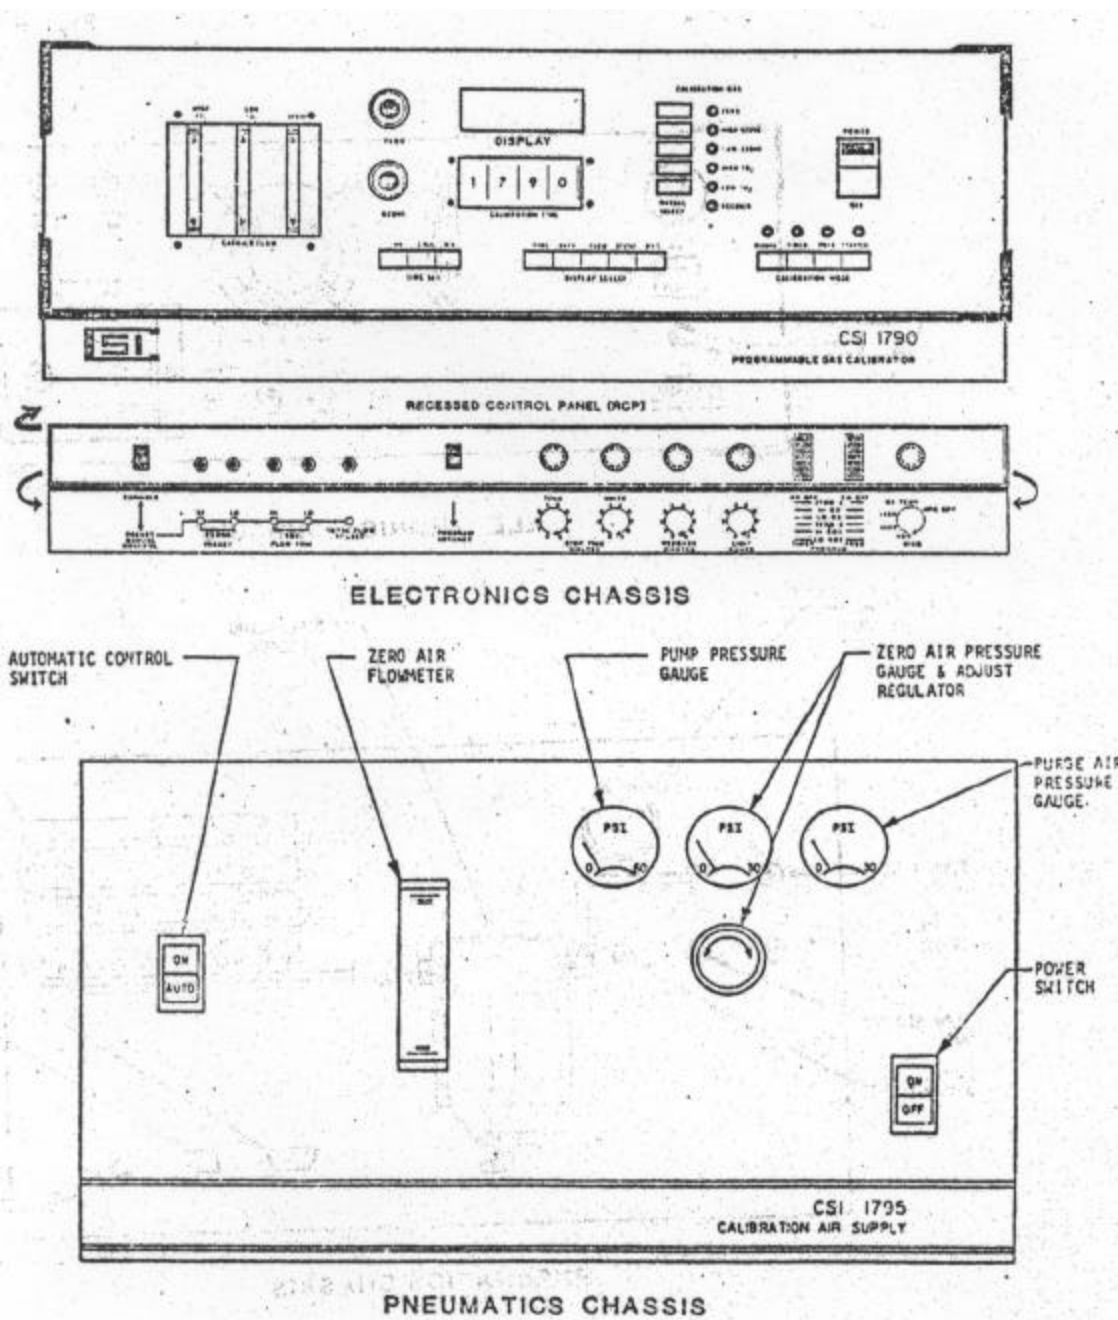
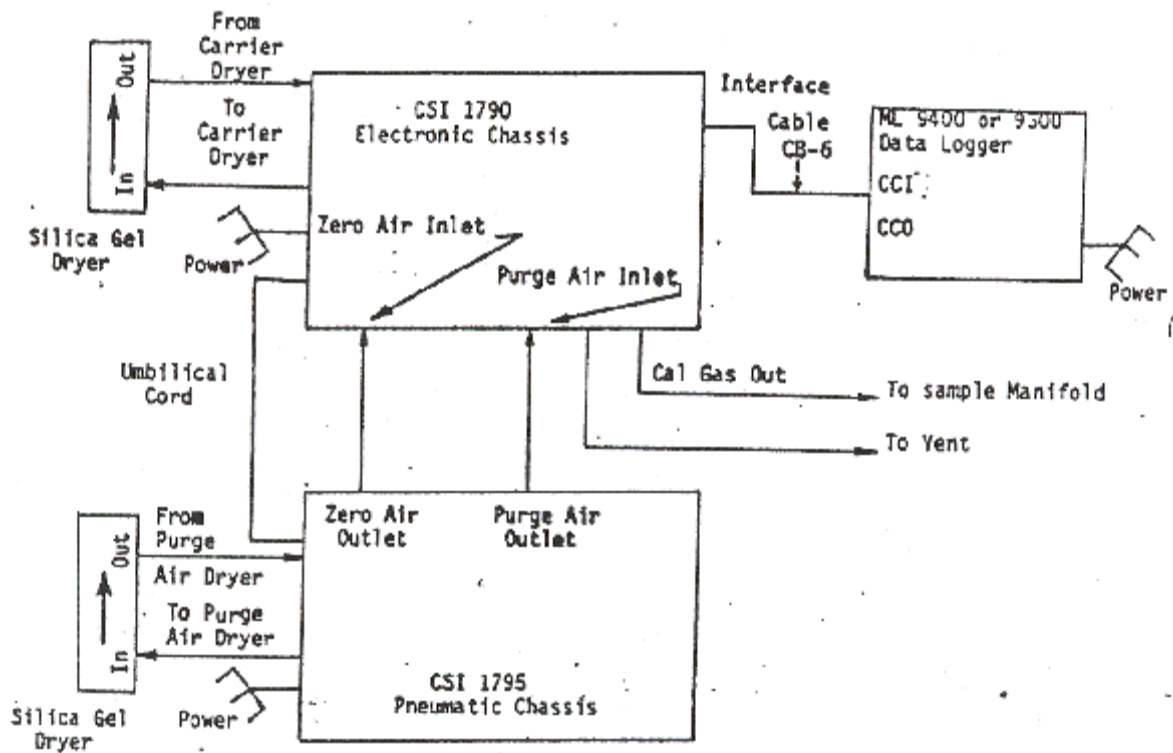

Figure I.1.0.1
Figure I.1.1.1
I.1.0.2      PHYSICAL DESCRIPTION - The calibrator system consists of two separate chassis; a CSI 1790 electronics chassis (19" wide x 7" high x 24" deep), containing the gas calibration controls circuitry, solenoid valves, mass flow controller, precision regulators, permeation tubes oven, ozone generator oven, etc.; and a CSI 1795 pneumatics chassis (16-1/2" wide x 10-1/2" high x 25" deep), containing a system pump, air purification system, accumulator, etc. The two chassis are interconnected by an umbilical cable and gas lines (see Figure I.1.1.1). Two drier tubes containing silica gel are used to dry the purge and the carrier air flows. Figures I.1.0.1 and I.1.0.2 depict the front and the rear views of the calibrator.
Two, seven-position on/off dip switches located on the RCP (see Figure I.1.0.1) are used to select the steps for the timer and precision calibration modes. Off position of a program switch skips that step function. The last position of the switch is always skipped.
**I.1.1.2        INITIAL SET-UP** (See Figure I.1.1.1)